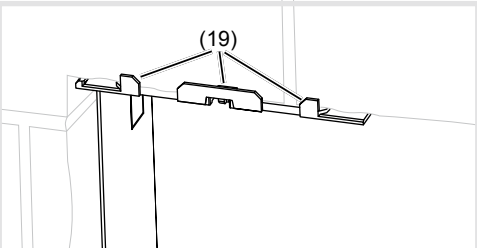

Figure 5: Installation position of fastening elements
- (16) 5.5 mm socket wrench
- (17) Fastening elements
- ⓘ The support bracket (19) of the fastening elements (18) must be located on the wall surface (Figure 5).